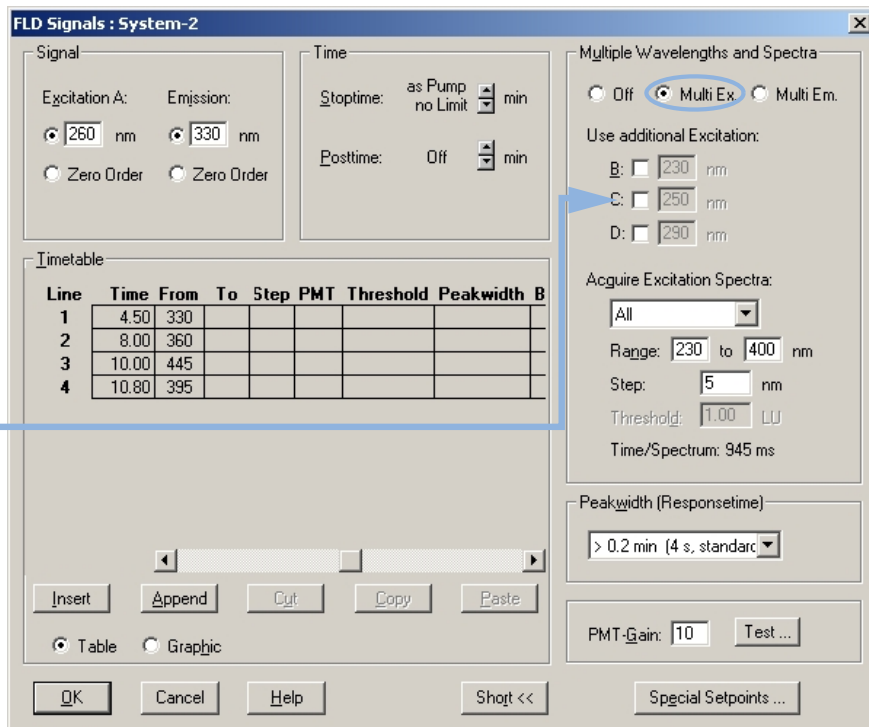

Figure 43 Detector Settings for Excitation Scan
- Using the settings and the timetable (from previous page), do a second run for the evaluation of the optimal excitation wavelength. See Figure 43 on page 104.